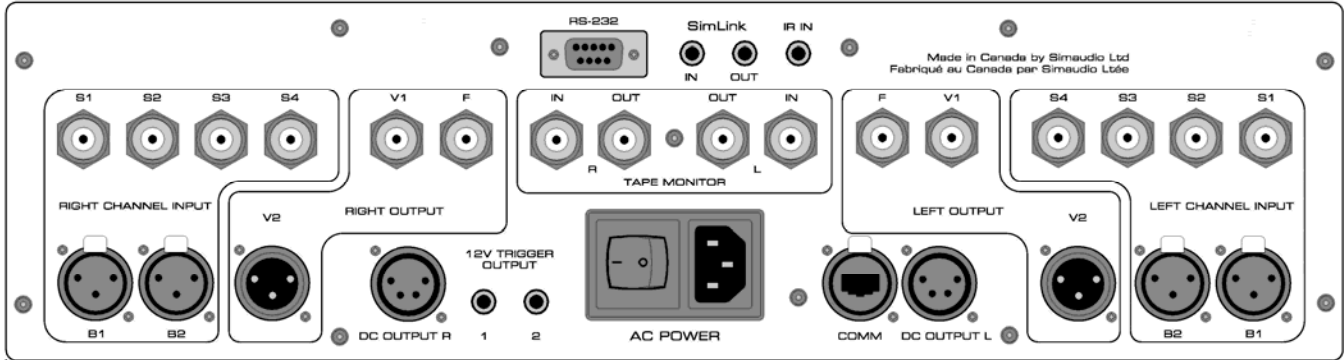

Figure 2: Rear panel of MOON P-7 Preamp
The rear panel of the **MOON P-7** dual-mono preamp will look similar to Figure 2 (above). There are three rows of input and output connectors. On the top row is a full-function bi-directional RS-232 port control and status for custom integration or automation and uses a DB9 connector. Immediately to the right of the RS-232 port are two (2) "SimLink" connectors labeled "in" and "out" on 1/8" mini jacks. Please refer to the next section entitled SimLink for more details. As well, there's a 1/8" mini-jack input for use with aftermarket infrared remote control receivers.